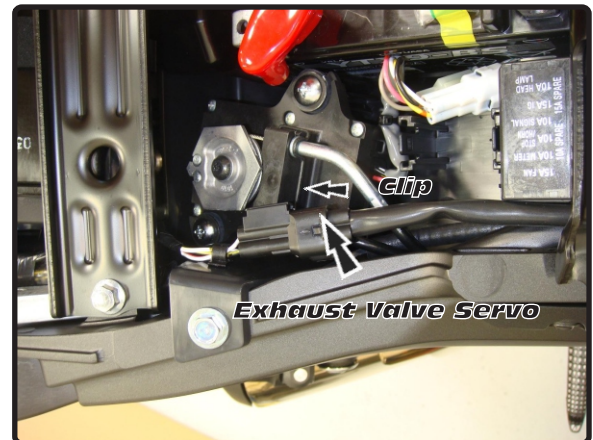

Fig. 1
- Remove rider seat to expose exhaust valve servo ( Fig. 1 ).